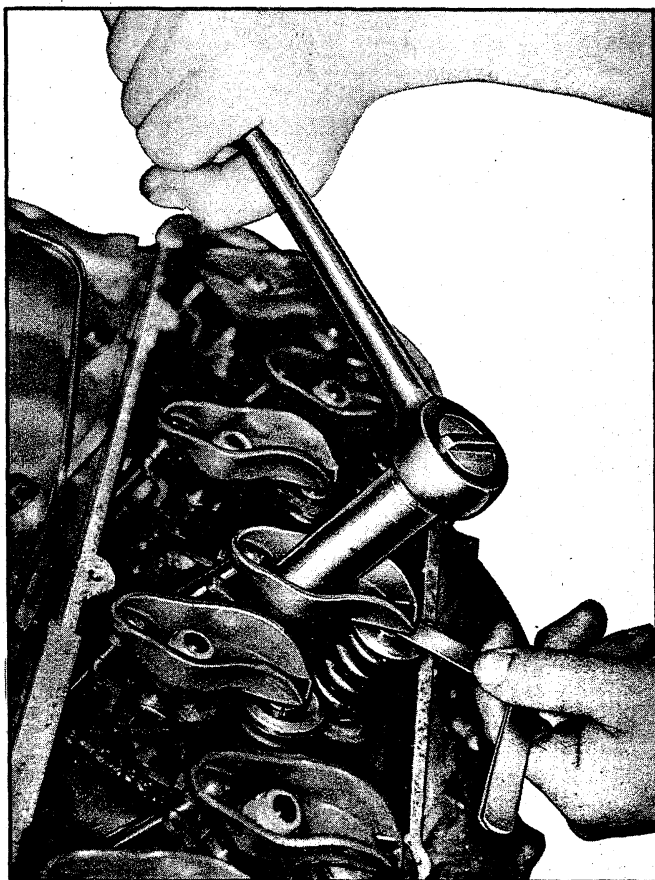

Fig. 5V - Valve Adjustment (Mechanical)
- b. With the engine in the number 1 firing position as determined above, adjust the following valves to specifications with a feeler gauge (fig. 5V).